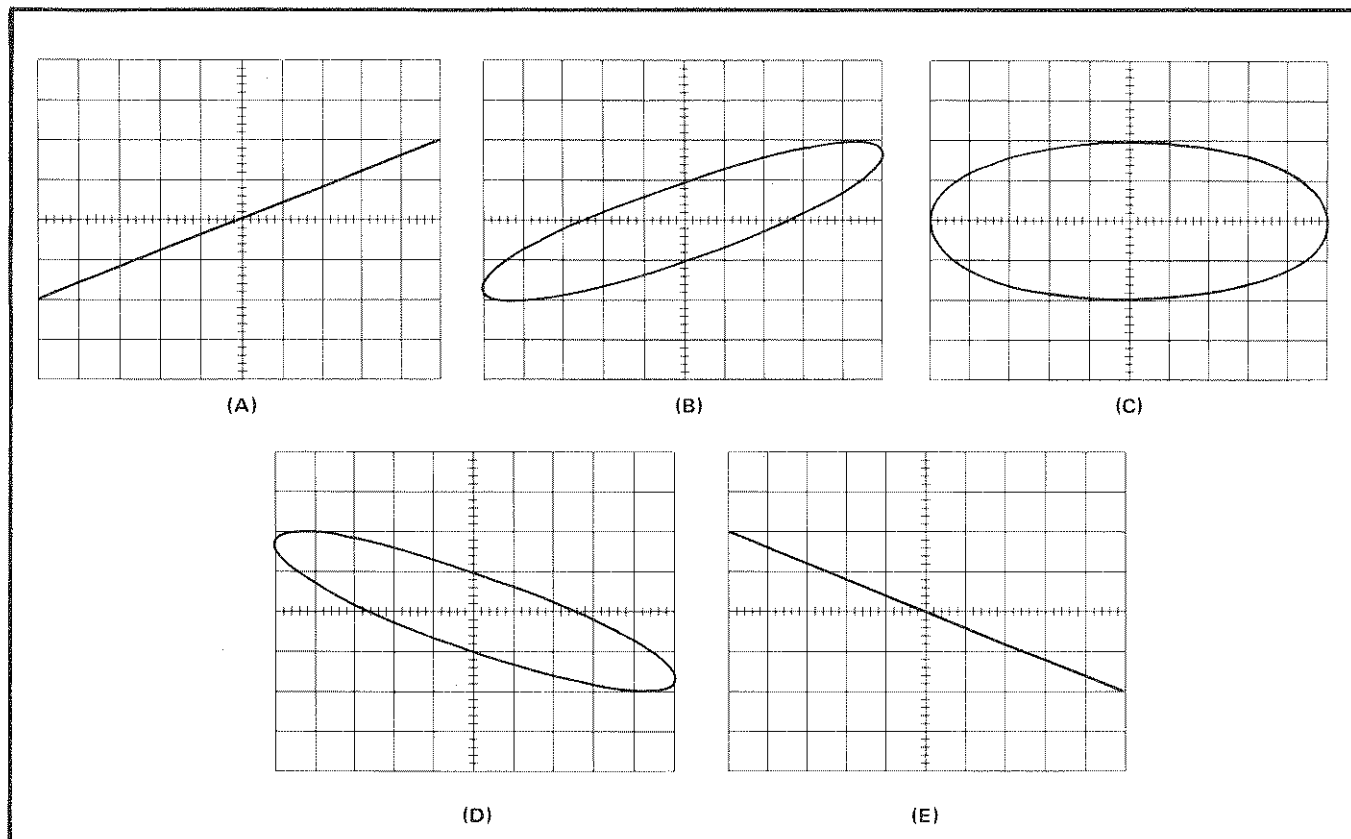

Fig. 1-11. Phase of a Lissajous display. (A) 0° or 360° , (B) 30° or 330° , (C) 90° or 270° , (D) 150° or 210° , and (E) 180° .
6. Divide B by A to obtain the trigonometric sine of the phase angle difference between the two signals. Obtain the phase angle from a trigonometric table to determine the phase angle between the X and Y signals. If the display appears as a diagonal straight line, the two signals are either in phase (tilted upper right to lower left), or 180° out of phase (tilted upper left to lower right). If the display is a circle, the signals are 90° out of phase. Fig. 1-11 shows the Lissajous displays produced between 0° and 360° . Notice that above 180° phase shift, the resultant display is the same as at some lower angle.